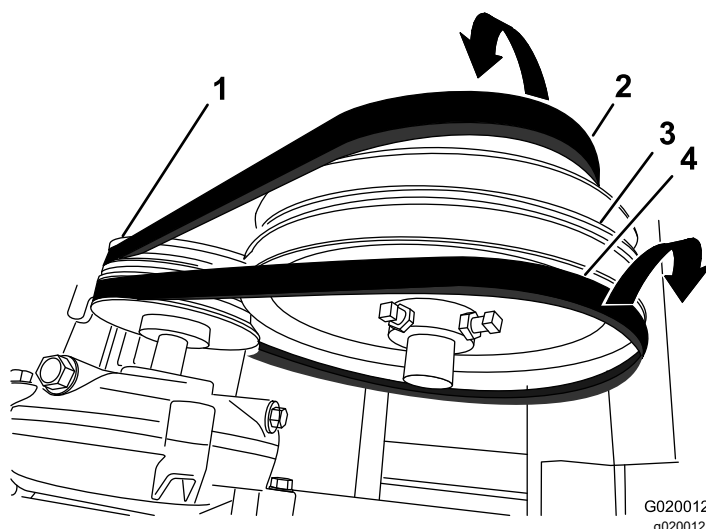

Figure 68
7. Slip the forward belt forward and off the idler pulley (Figure 68).
8. Slip the rear belt rearward and off the idler pulley (Figure 68).